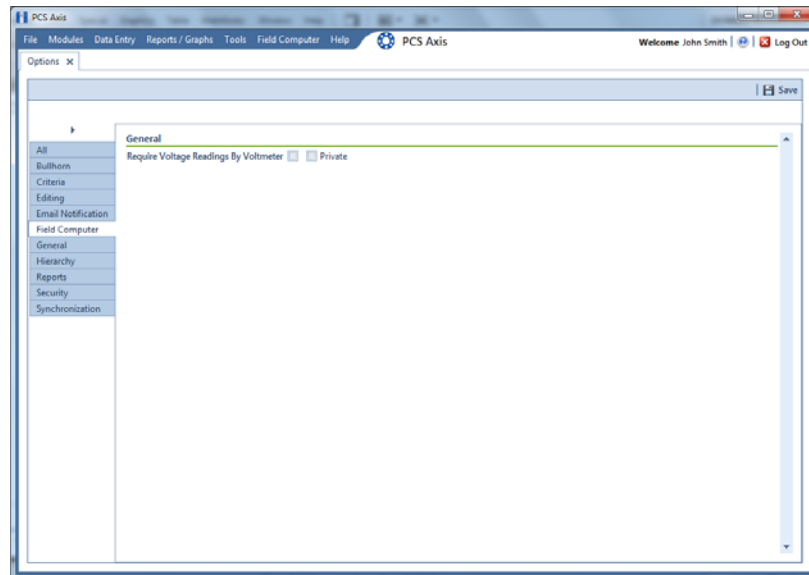

Figure 2-10. Field Computer Options
- 1 If the *Options* window is not open, click **Tools > Options** to open the window. Then click the **Field Computer** tab (Figure 2-10).